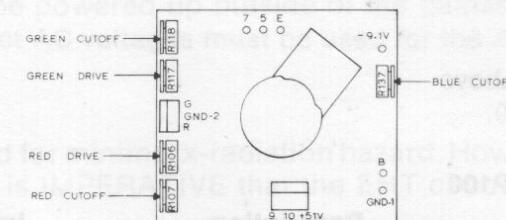

Figure 1
test point 1 (See Fig. 1)
- 1.5 Turn off the red and blue fields on the generator and adjust the G2 control (figure 1) to produce a green field.
- 3.2 Set red and green drive controls to their mechanical center and turn the common G2 screen control and 3 cut-off controls to minimum (fully counterclockwise). Refer to figure 1 for control locations.